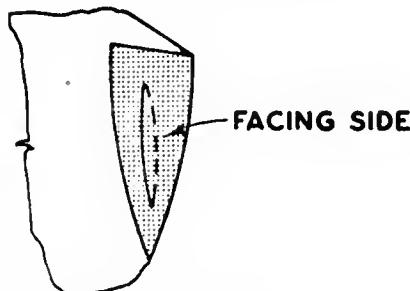

Fig. 183. Basting the creaseline.
- E. Another method is to baste the creaseline. Then take a  $\frac{1}{4}$ -in. tuck tapering to nothing at either end about  $\frac{1}{4}$  in. from the creaseline. Baste the outer seam edge. Remove the pins to check the bulge in the facing for roll before stitching (Fig. 183).